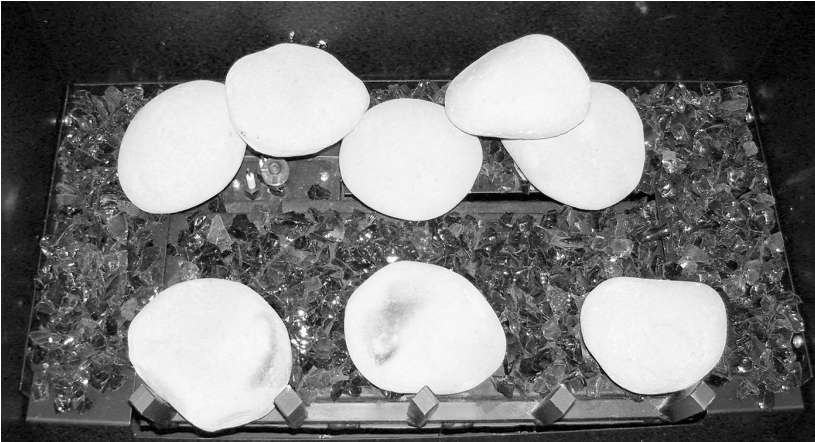

Figure 39 - Placing stones #7 and #8.
- Place stones (#7 and #8) on top of the rear stones as shown on the picture. See Figure 39 .